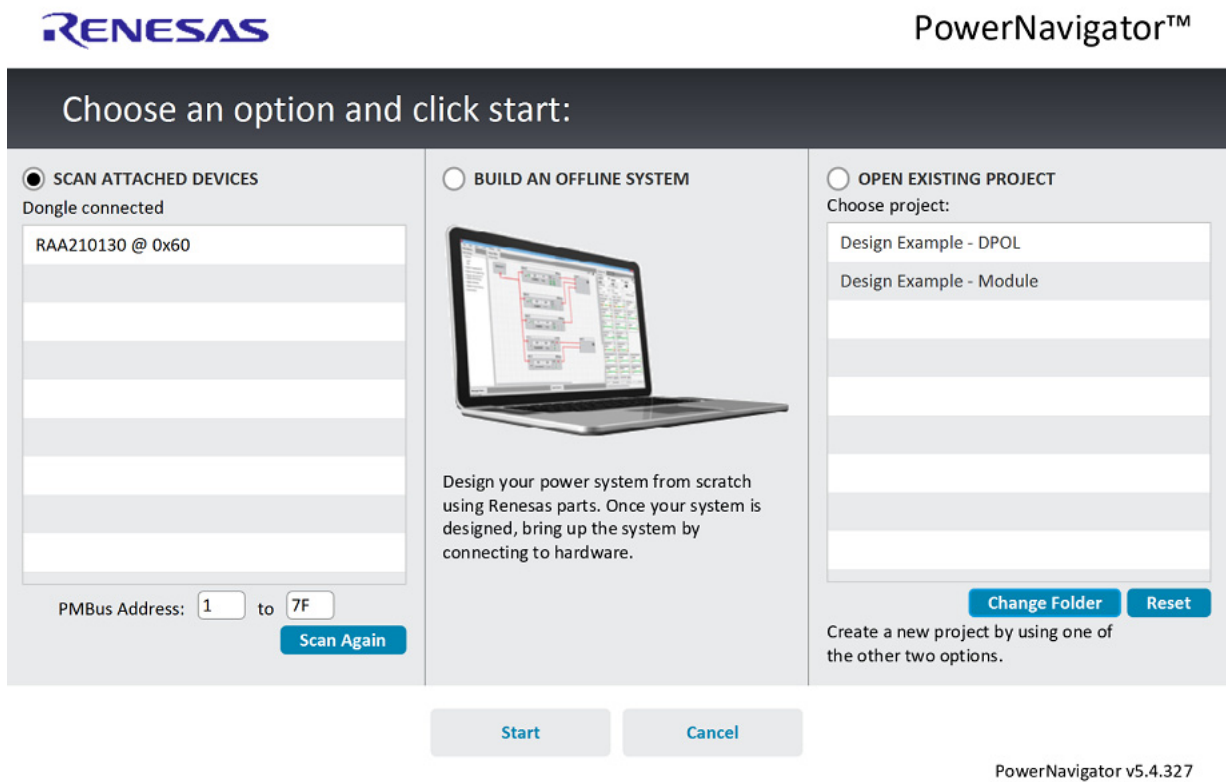

Figure 2. PowerNavigator Start Page.
8. Launch the PowerNavigator software. The PowerNavigator software interface is shown in Figure 2. The module RAA210130 part number and I²C address (0X60) appears under Scan Attached Devices section.